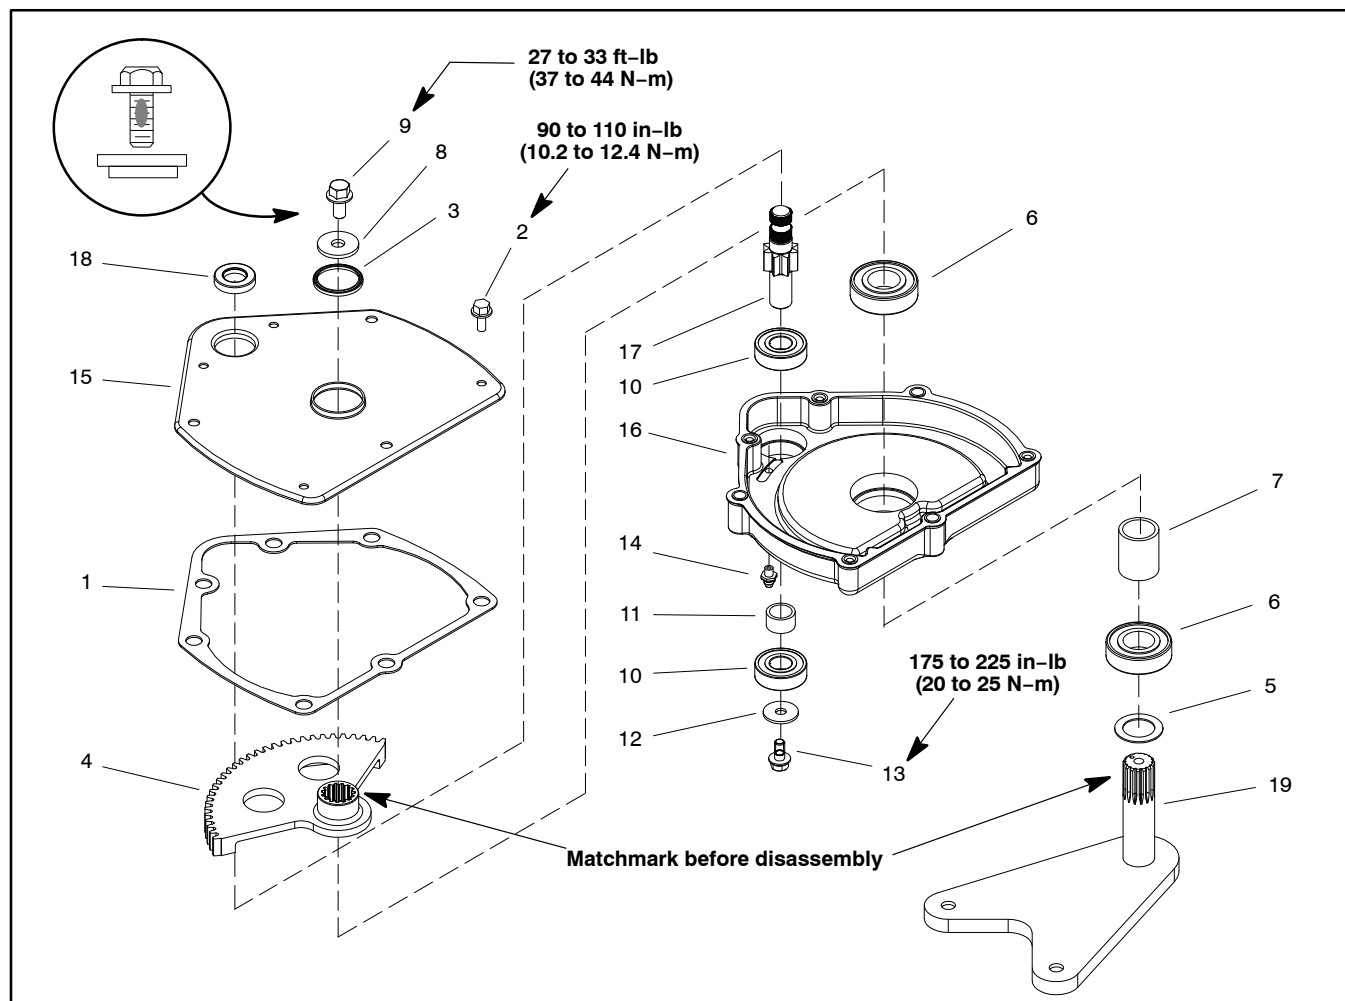

Figure 9
Disassembly (Fig. 9)
Assembly (Fig. 9)
8. Secure stepped washer and flange head screw with patch lock (item 9) to the Pitman arm (item 8). Make sure to position stepped washer as shown in Figure 9. Torque screw from **27 to 33 ft-lb (37 to 44 N-m)**.
9. Secure flat washer (item 12) and flange head screw with patch lock (item 13) to the pinion gear shaft. Torque screw from **175 to 225 in-lb (20 to 25 N-m)**.